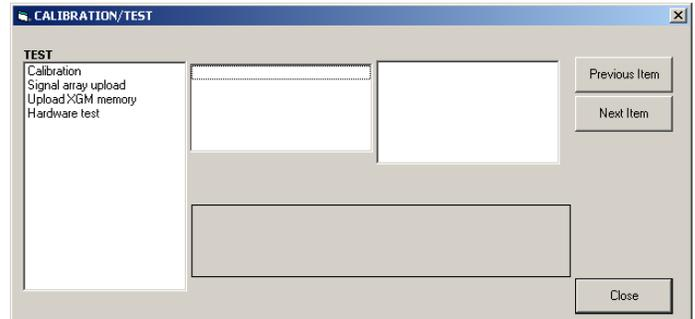

Figure 10: The calibration/test menu
5. To enter data into the user program, double-click on the *calibration/test* menu. The window appears similar to *Figure 10* below.
1. From the calibration/test menu (see *Figure 10* on page 36), double-click on the calibration entry to open the option.
To calibrate any option card installed in slot 1 of the XGF868i, enter the calibration/test menu as shown in *Figure 10 on page 36*.